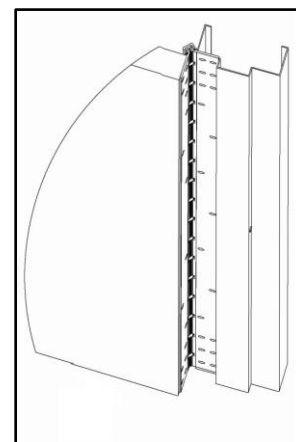

Fig. 3
- Position the door (with hinge attached) at 90° to the frame. Attach the hinge to the frame (see fig.3). For wood or fiberglass frames, use the 1/4" x 1-1/2" optional wood screws. For metal frames, use the 1/4-20 x 1" self-drilling screws provided (recommended driver speed 1,900-2,500rpm).